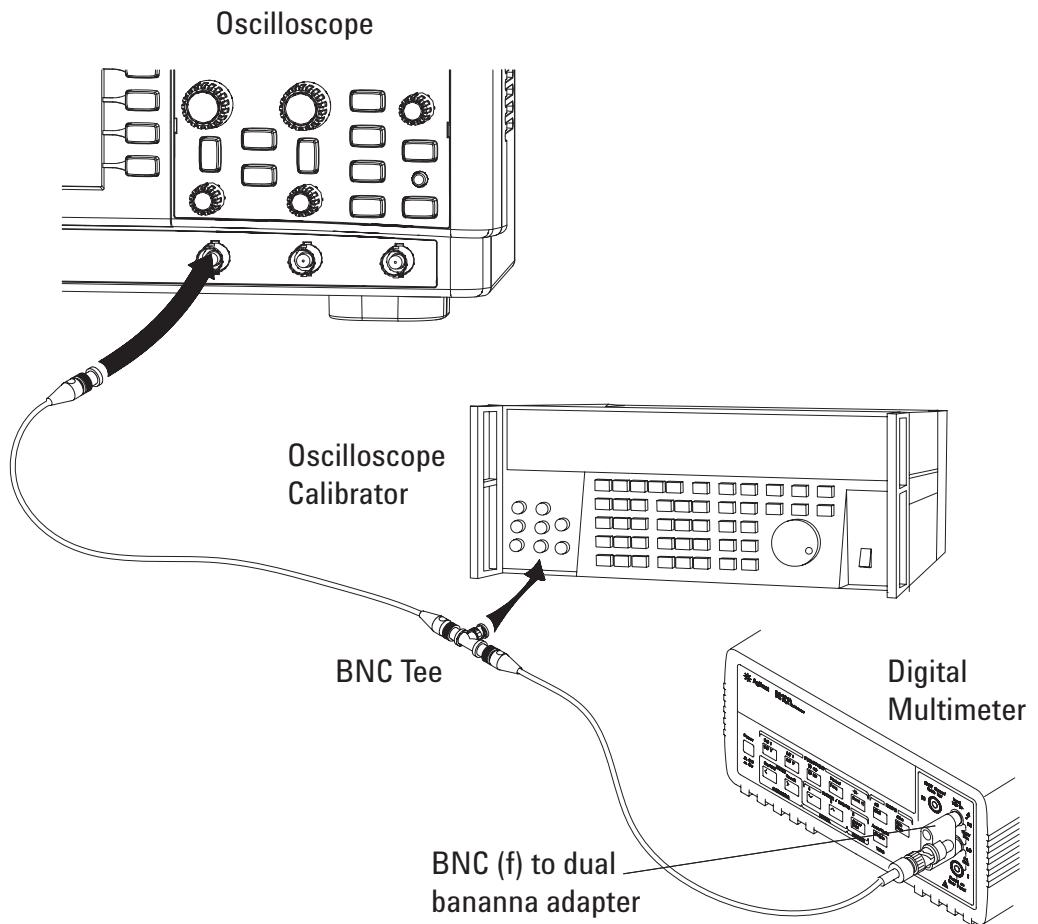

Figure 1 Setting up Equipment for DC Vertical Gain Accuracy Test
- 6** Use the BNC tee and cables to connect the oscilloscope calibrator/power supply to both the oscilloscope and the multimeter (see Figure 1).